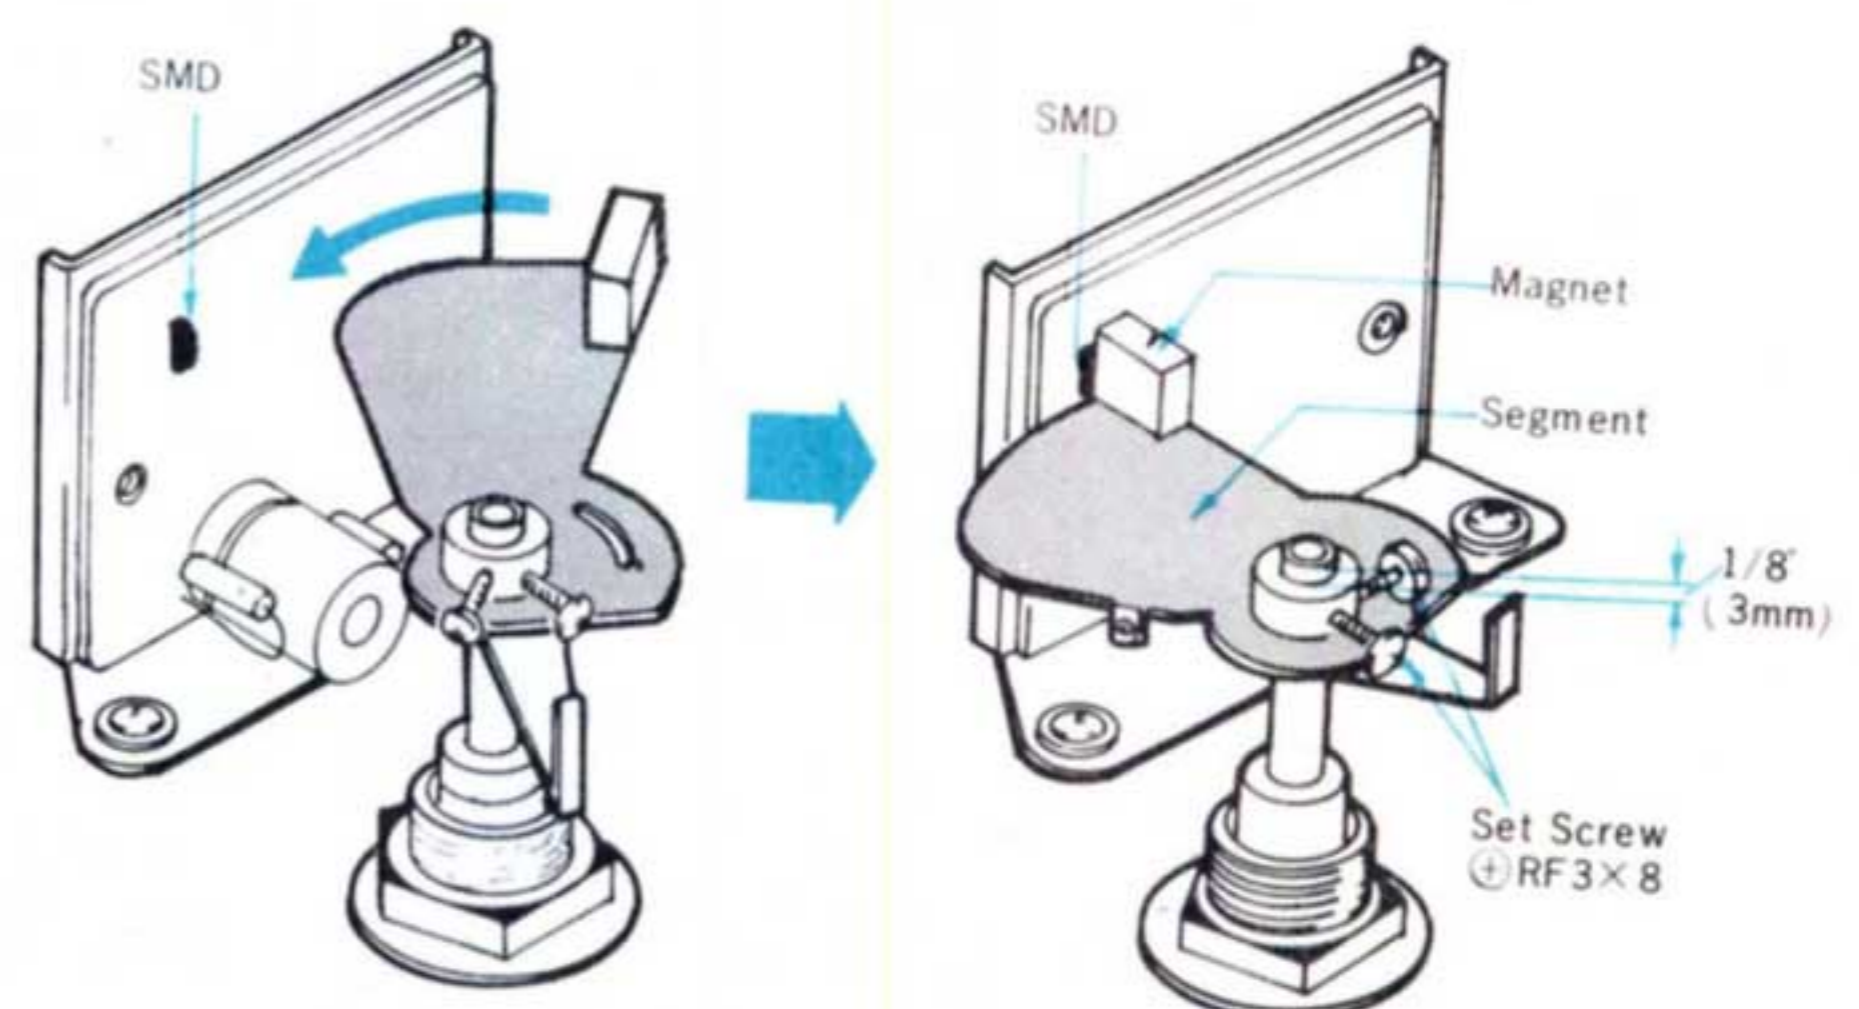

Fig. 3-7 Sensing Mechanism Adj.
2. Set the end of the bracket assembly shaft $1/8''$ (3mm) from the end (bottom) of the tone arm shaft. See Fig. 3-7.
4. Adjust the horizontal position of the bracket assembly so that the permanent magnet aligns with the SMD when the stylus moves into the last groove of the record. See Fig. 3-7.